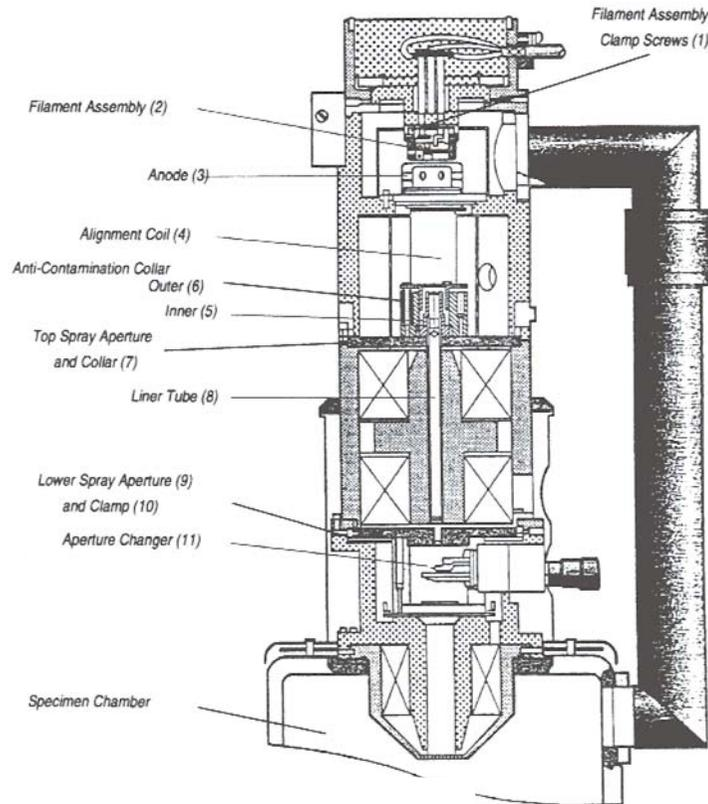

Figure 5.1 The Column
The numbers quoted thus (23) refer to the identification markers in the diagram below (Figure 5.1):-